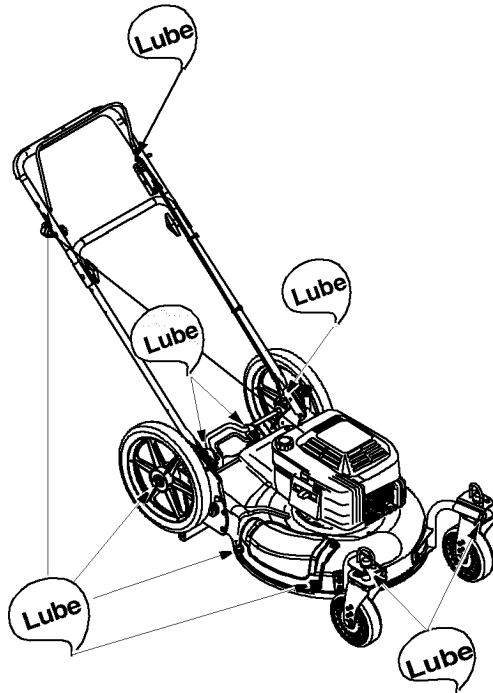

Figure 14: Lubrication Chart
See Figure 14 for the lubrication chart.
- Lubricate mower following the lubrication chart in Figure 14 of this manual.